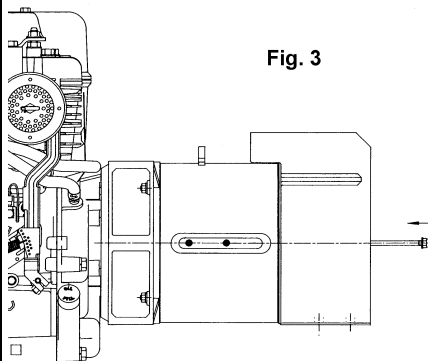

Fig. 3
-) screws the self-locking nut onto the central bolt and insert the latter into its housing (figure 3)